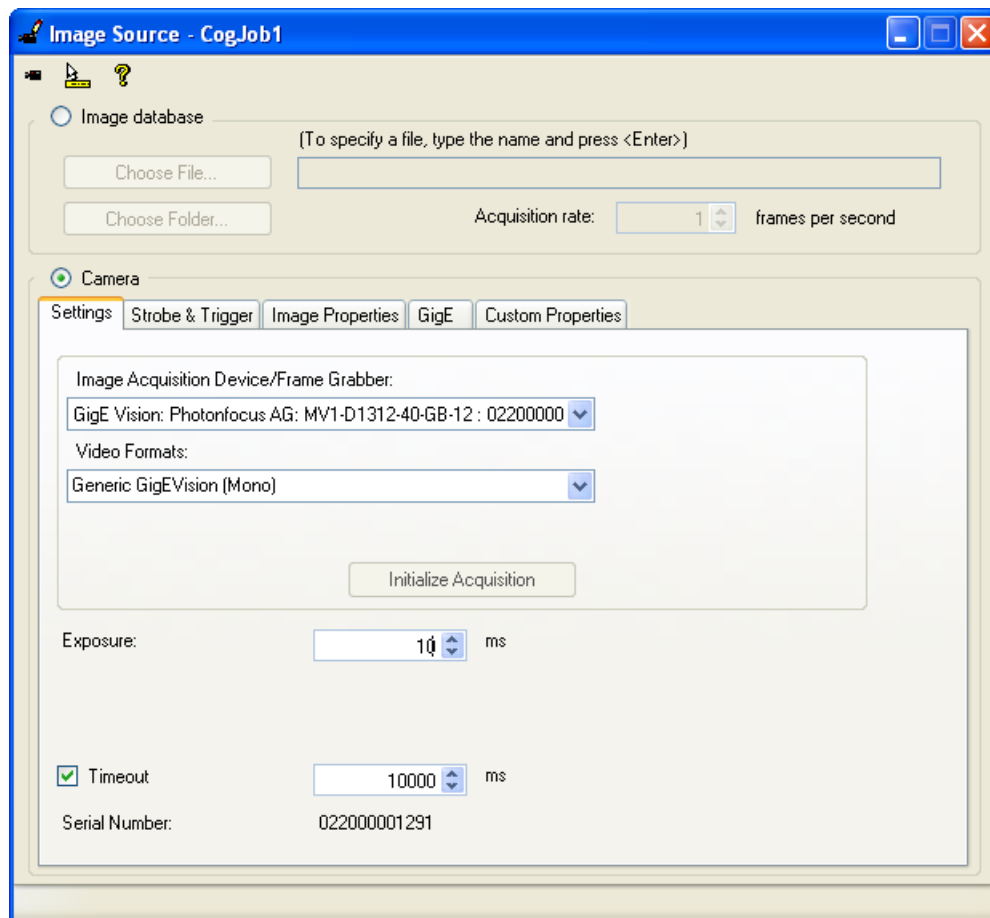

Figure 3.9: VisionPro Camera Settings dialog
4. Camera parameter can be modified in the Camera Settings window (see Fig. 3.9). Basic properties can be modified in the tabs Settings, Strobe & Trigger and Image Properties.
5. To grab images click on the camera icon at upper left corner in the Camera Settings Dialog (see Fig. 3.9).
Camera parameter can be modified in the Camera Settings window (see Fig. 3.9). Basic properties can be modified in the tabs Settings, Strobe & Trigger and Image Properties.